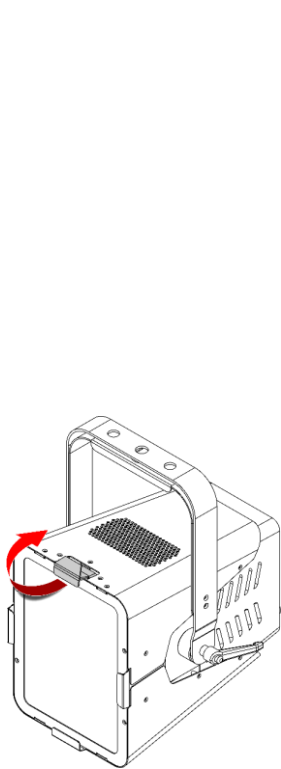

Fig. 08
- 01) Lift the **color frame clip (05)** and flip it backwards (see Fig. 08).